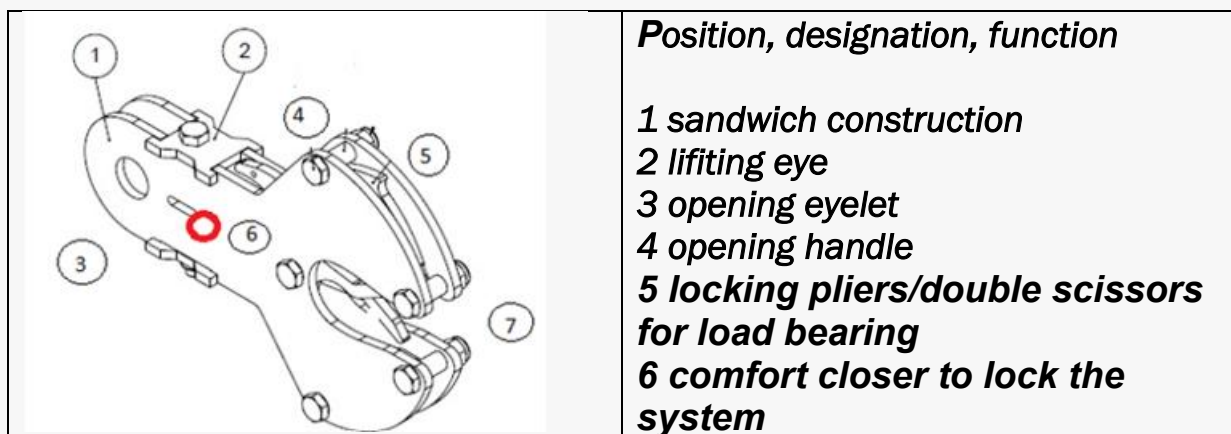

Abb.7.1.1
*Both opening handles (4) must be pressed simultaneously and completely as far as they will go. The GREIF opens both closing tongs (5) and remains in the open position. (see Fig. 7.1.1)*
*The crank eyelet (4) must be rotated 90 degrees. The rotation can be in either direction. The GREIF opens both locking pliers (5) and remains in the open position. (see Fig. 7.1.1)*
Using a telescopic rod, the GREIF can be pulled directly at the pull eye and thereby opened. The GREIF opens both locking jaws (5) and remains in the open position. (see Fig. 7.1.1)